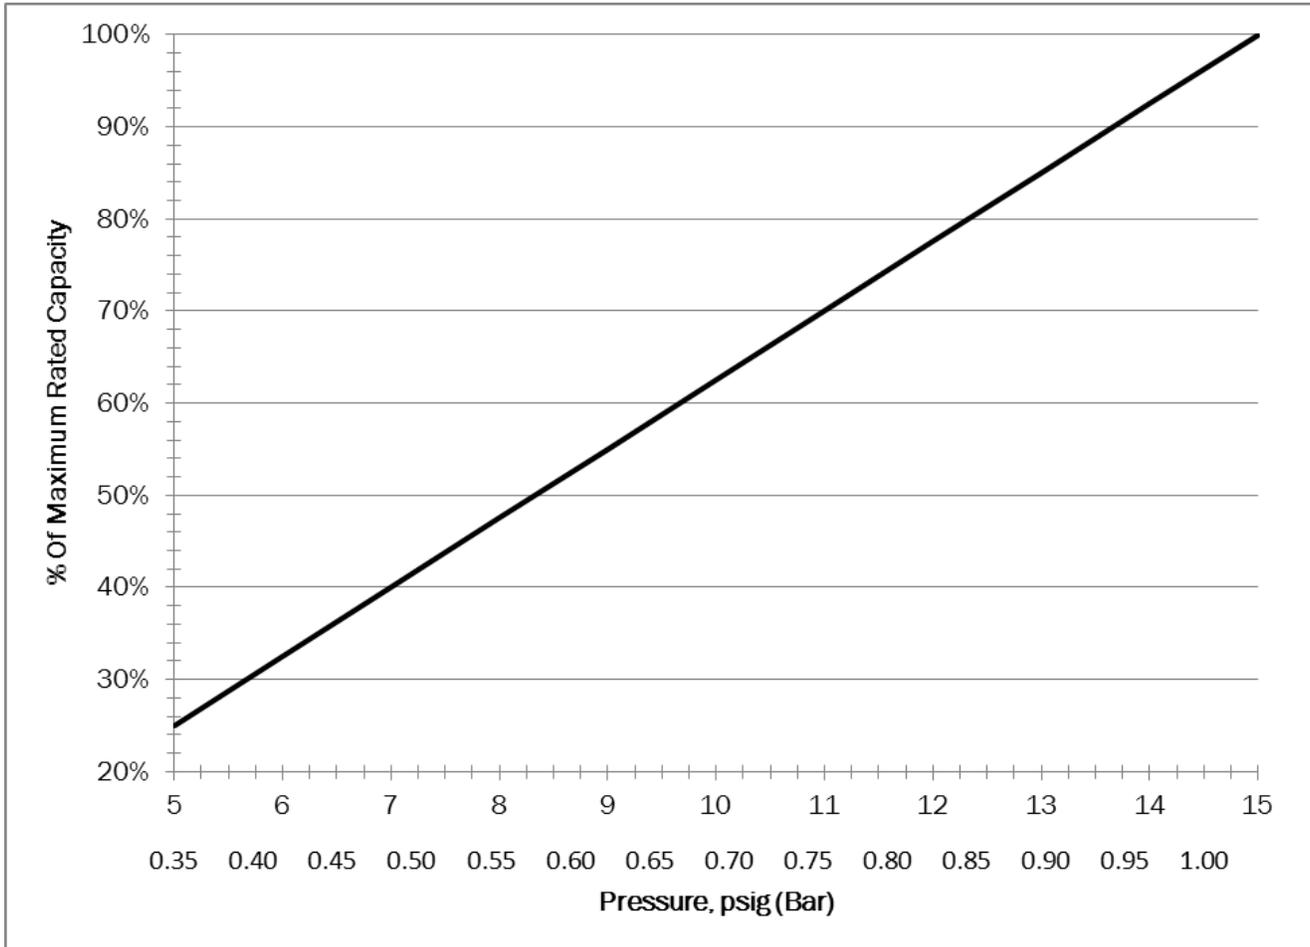

Figure 10: Output as a Function of Supply Steam Pressure
One of the unique features of the steam exchange humidifier is that its maximum output is affected by the steam supply pressure. Models are designated by the capacities at maximum supply pressure of 15 psi (1.034 Bar). An SETC 1050 will produce 1050 lb/hr (477 Kg/hr) of steam when supplied with 15 psi (1.034 Bar) steam. If the available steam supply pressure is lower than 15 psi (1.034 Bar) measured at the control valve, then the output will be reduced as shown in Figure 10. Table 5: SETC Capacities and Water Consumption on page 10 also provides steam output at 0.69 and 0.35 BAR (10 and 5 psi) supply pressures.
- 1 From Figure 10 the output will be reduced to 78% at 12 (0.83 bar) psi supply pressure.